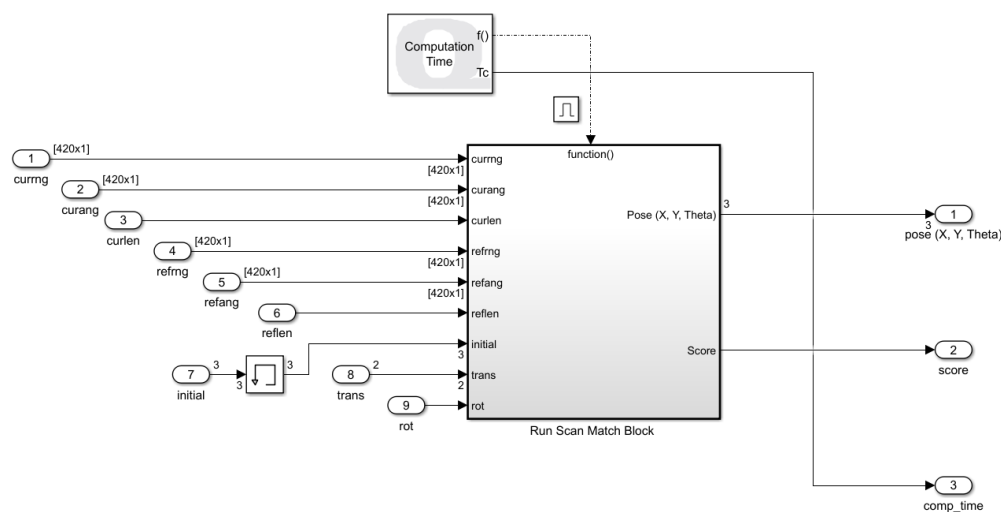

Figure 5. Inside of Run & Time Scan Match subsystem
- Return to the **LiDAR & Localization** subsystem. Next, we will set up the inputs to the Scan Match block to estimate the position of the QBot using the subsampled LiDAR scan data. Open the **Run & Time Scan Match** subsystem. This subsystem runs and measures the computation time of the LiDAR Scan Match block using a function-call subsystem, shown in Figure 5 below.
13. Open Data Scopes within the **Data Display** subsystem, which opens three different plots. Drive the QBot around while observing these scopes. The Estimated Pose plot displays the x, y, and theta values of the current position estimate. Which axis corresponds to the forward movement direction of the QBot? The Score plot displays a non-normalized confidence for the match. The Timing scope displays sample and computation times for the model. The Scan Match Computation Time trace displays the output of the Computation Time block inside the Run and Time Scan Match subsystem (Figure 5). Stop the code using the Stop button under the Simulation Tab.